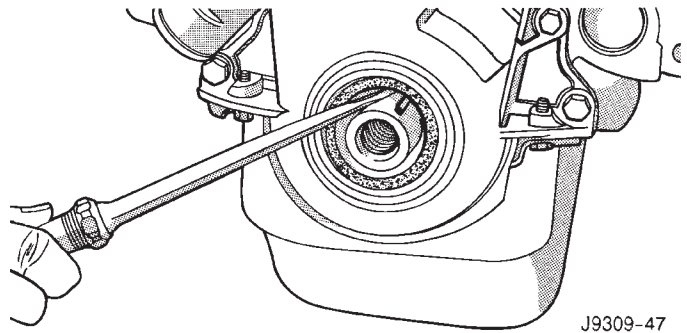

Fig. 3 Removal of Front Crankshaft Oil Seal
(1) Disconnect the negative cable from the battery.
(2) Drain cooling system (refer to Group 7, Cooling System).
(3) Remove the serpentine belt (refer to Group 7, Cooling System).
(4) Remove water pump (refer to Group 7, Cooling System).
(5) Remove power steering pump (refer to Group 19, Steering).
(6) Remove vibration damper.
(7) Remove fuel lines (refer to Group 14, Fuel System).
(8) Loosen oil pan bolts and remove the front bolt at each side.
(9) Remove the cover bolts.
(10) Remove chain case cover and gasket using extreme caution to avoid damaging oil pan gasket.
(11) Place a suitable tool behind the lips of the oil seal to pry the oil seal outward. Be careful not to damage the crankshaft seal surface of cover (Fig. 3).